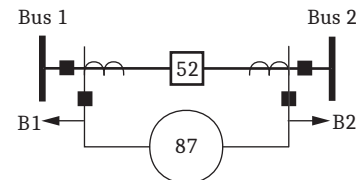

Figure 16 Two CTs Configured With a Differential Element Across the Breaker
- Two CTs configured with a differential element across the breaker (*Figure 16*)